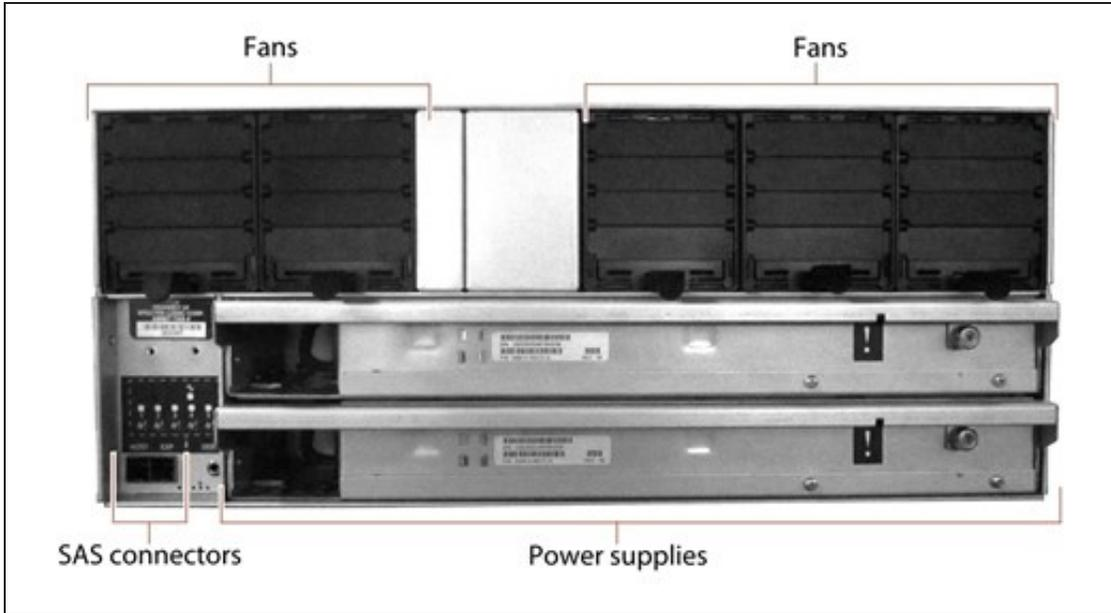

Figure 25 The rear view of the 96-bay expansion node.
Figure 25 shows the major components on the rear of the 96-bay expansion node.
- To power on a 77-bay, 96-bay, or 107-bay expansion node, connect power cables to the power supplies on the rear of the expansion node chassis (see Figure 16 on page 55 and Figure 25 on page 66), then plug the power cables into power outlets near the chassis. The expansion node immediately powers on. Wait approximately four minutes while the expansion node initializes before powering on the BlackPearl master node.